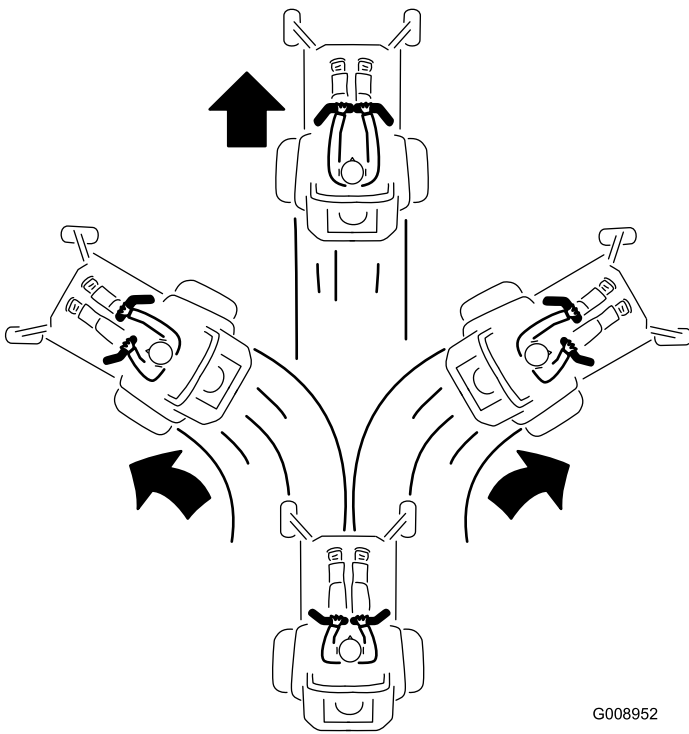

Figure 19
3. To go forward, slowly push the motion control levers forward (Figure 19).